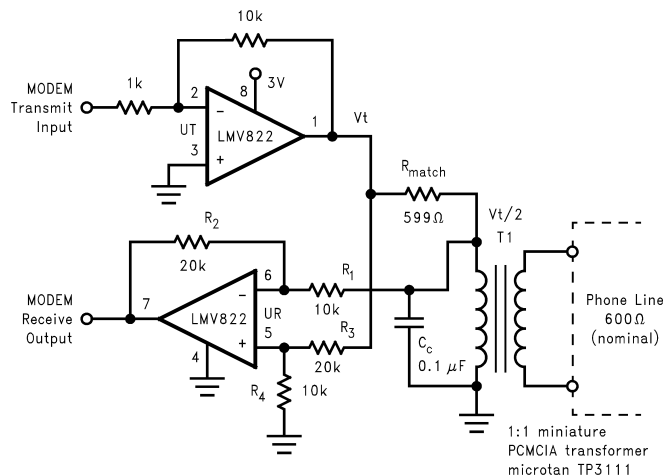

Figure 39. Telephone-Line Transceiver for a PCMCIA Modem Card
The telephone-line transceiver of Figure 39 provides a full-duplexed connection through a PCMCIA, miniature transformer. The differential configuration of receiver portion (UR), cancels reception from the transmitter portion (UT). Note that the input signals for the differential configuration of UR, are the transmit voltage ( $V_T$ ) and  $V_T/2$ . This is because  $R_{match}$  is chosen to match the coupled telephone-line impedance; therefore dividing  $V_T$  by two (assuming  $R1 \gg R_{match}$ ).